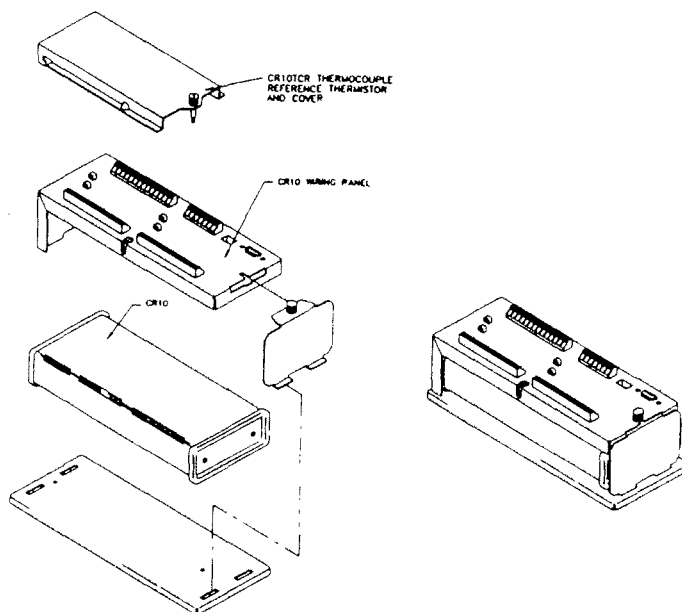

FIGURE TM1.1-1. CR10 and Wiring Panel
- The CR10 does not have an integral terminal strip. A removable wiring panel, the CR10WP (Figure TM1.1-1) performs this function and attaches to the two D-type connectors located at the end of the module.
The CR10WP Wiring Panel and CR10 datalogger (Figure TM1.1-1) make electrical contact through the two D-type connectors at the (left) end of the CR10.